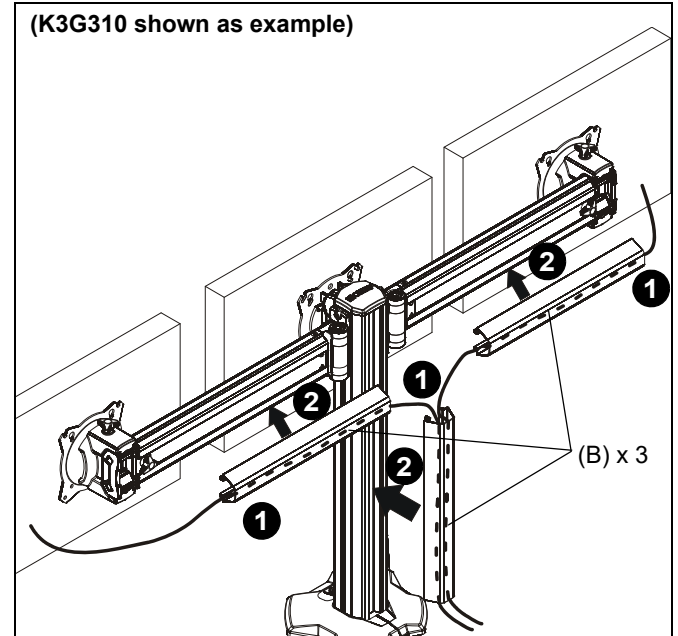
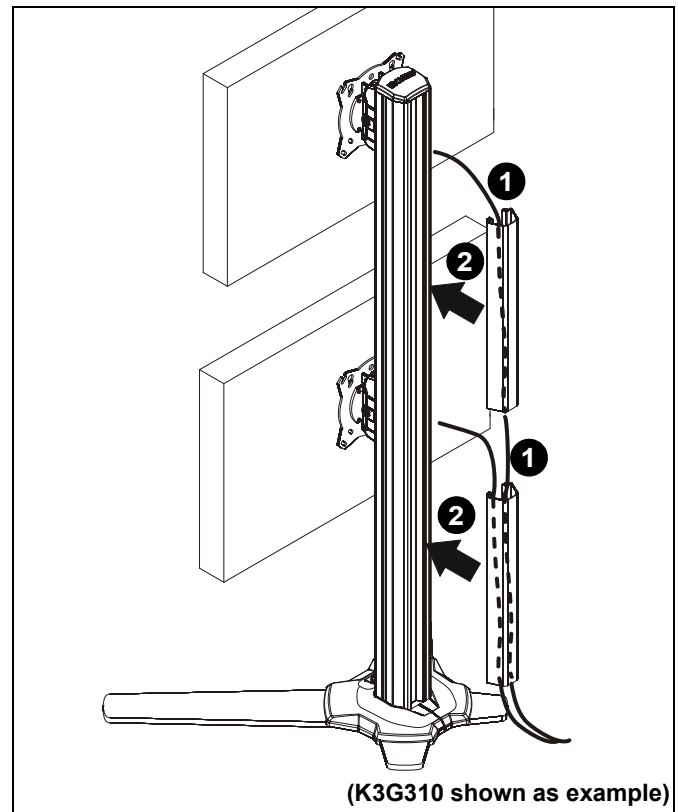

Figure 30
Figure 31
1. Route cables from display through cable management covers (B) as desired. (See Figure 30) and (See Figure 31)
2. Install cable management covers (B) onto array (A). (See Figure 30) and (See Figure 31)